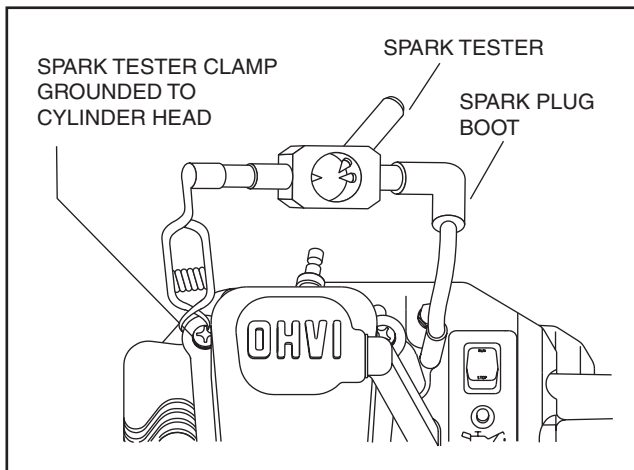

Figure 10. Testing Ignition System
3. Ground the spark tester clamp by attaching to the cylinder head (see Figure 10).